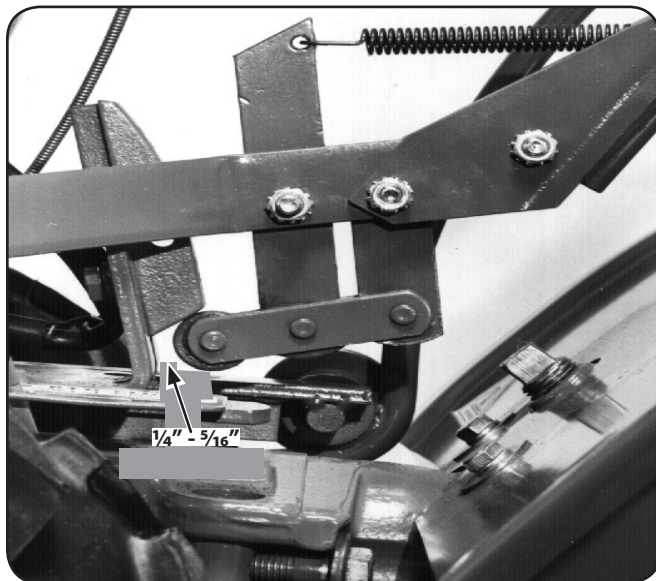

Figure 6-13
- Move the Wheels/Tines/PTO Drive Lever fully down to the FORWARD position. The clutch roller at the bottom of the lever should be positioned underneath the belt adjustment block. See Figure 6-13. Don't let the clutch roller move during the next few steps. If it moves, you'll get a false belt tension reading.
- The belt tension is correct if the front of the clutch roller is $\frac{1}{4}$ "-to- $\frac{5}{16}$ " away from the face of the upright bracket that holds the adjustment block in place. See Figure 6-13. To measure this distance: